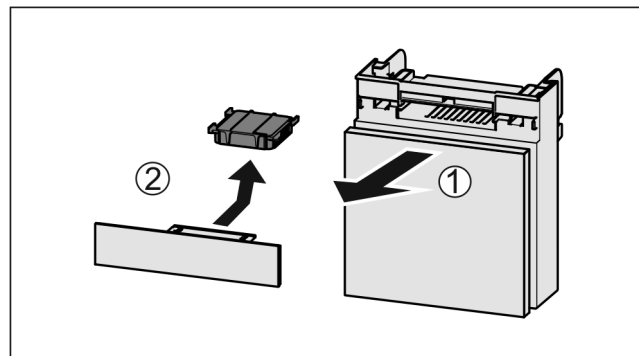

Fig. 96
- ▶ Pull out the compartment Fig. 96 (1).
- ▶ Remove the carbon filter Fig. 96 (2).